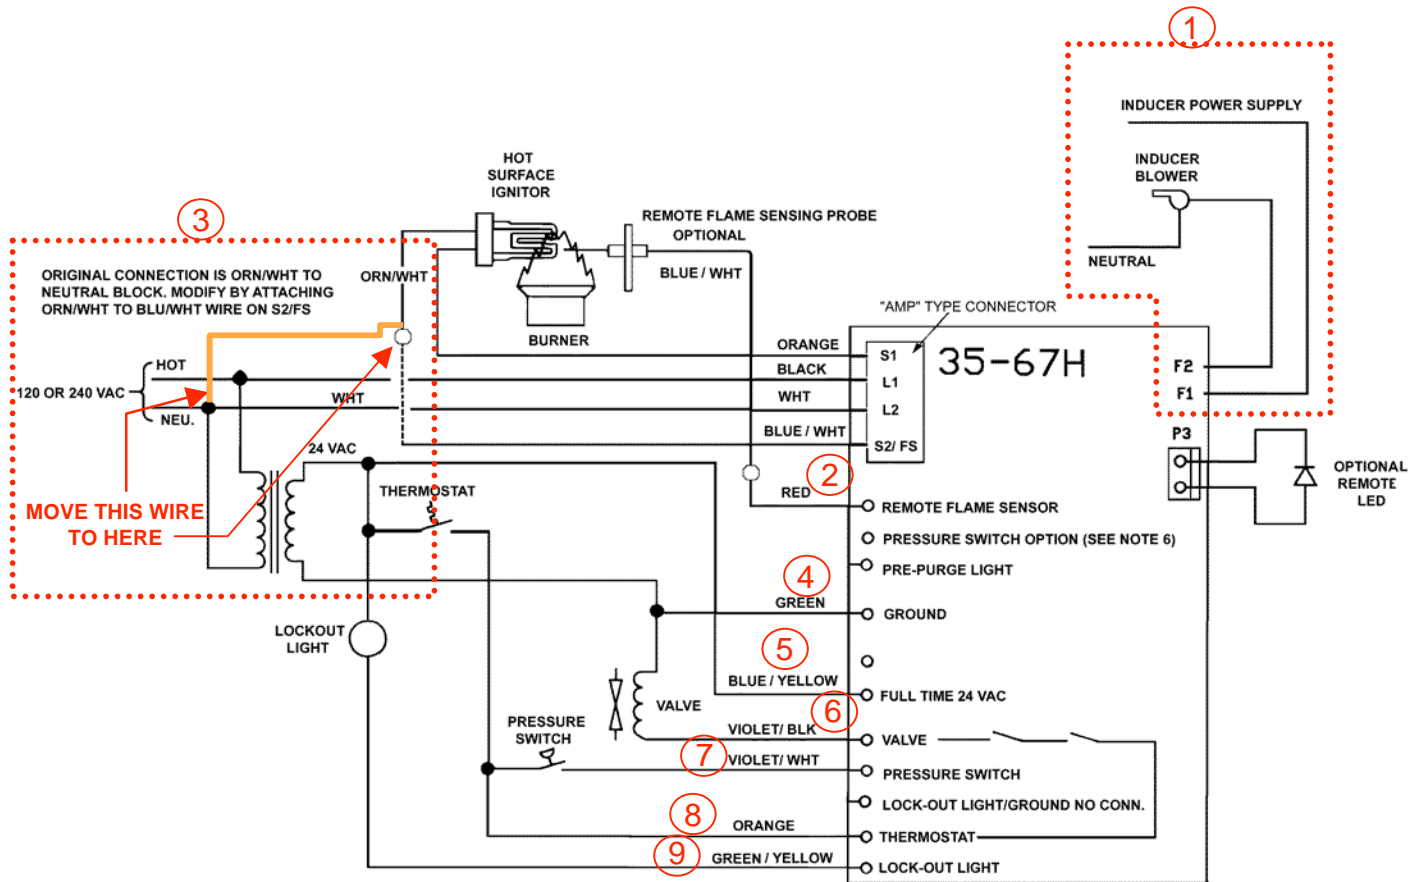

FIG. 3
The following steps require frequent references to the wiring diagram in FIG. 3 shown on page 4.
11. The new ignition module requires 120 volt power to be brought in to F1 post for the blower. See **FIG. 3** and refer to dotted area marked with (1). Run a black wire from power block 1 to F1. Crimp on a female push-on connector to the other end of the black wire and attach to F1 pin.
15. The red wire at the top of the wire harness (2) goes to the flame sensing connection. The blue/white wire located on the 4 wire AMP plug gets cut out. Cut the wire approximately 10" from the AMP plug. Wirenut the red wire to the portion of the blue/white wire which is the lead from the flame sensor.
16. Disconnect the orange/white neutral wire (3) from the 120 volt terminal block and connect it to the blue/white wire on the S2 lead.
17. The green wire from the (4) harness goes to ground. Wirenut this wire to the green wire that was on the old module.
18. The blue/yellow wire ⑤ is the continuous 24 volt power. Wirenut this wire to the blue wire coming off the 24 volt terminal block.
19. The violet/black wire ⑥ is the power output to the gas valve. Wirenut this to the black wire that is coming off the gas valve from terminal block #2.
20. The violet/white wire ⑦ is the power in from the air pressure switch. Wirenut this to the violet wire that is coming off the air pressure switch from terminal block #2.
21. The orange wire ⑧ is the power input from the thermostat. Wirenut this to the red wire that is coming off the flow switch from terminal block #2.
- C. The new ignition module requires power to be brought in to the F1 post for the blower. See FIG. 3 and refer to the dotted area ①. Run a black wire from power block 1 to the F1 post. Crimp on a female push-on connector to the other end of the black wire and attach to F1 pin.
- F. Connect the red/yellow wire from the old module to the orange wire ⑧ on the new harness.
- G. Connect the violet/white wire from the old module to the violet/white wire ⑦ on the new harness.
- H. Connect the black wire (MV1) from the old module to the violet/black ⑥ on the new harness.
- I. Connect the green wire to the green wire ④ for ground.
- J. Connect the blue/white wire from the old module to the blue/yellow wire ⑤ on the new harness.
- L. Cut the blue/white wire approximately 10" from the "AMP" plug. Connect the red wire ② to the blue/white wire from the sensor.
- M. Remove the orange/white wire from the igniter and connect to the blue/white wire ③ on the "AMP" plug.